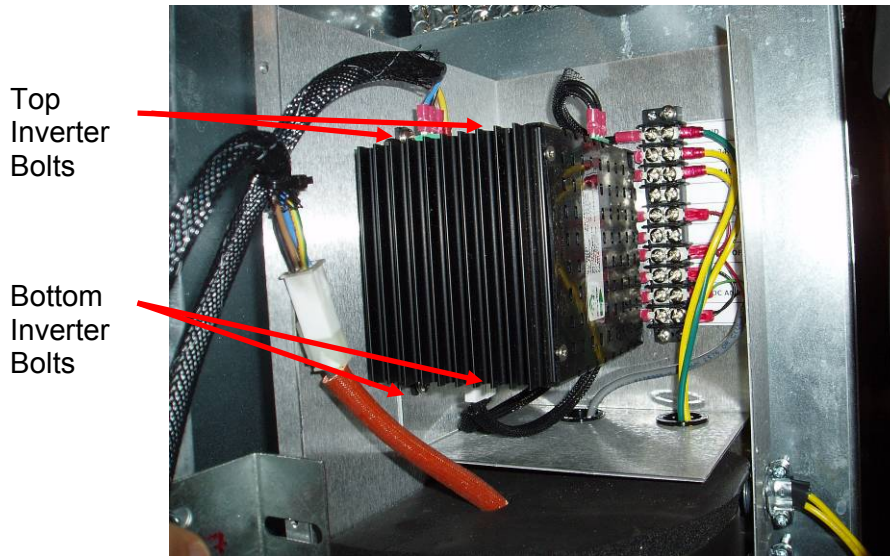

Figure 22 – Inverter Bolts
4. Remove the top (2) Phillips-head BOLTS on the top section of the INVERTER (see Figure 22).
5. Loosen the bottom (2) Phillips-head BOLTS on the bottom section of the INVERTER (see Figure 22).